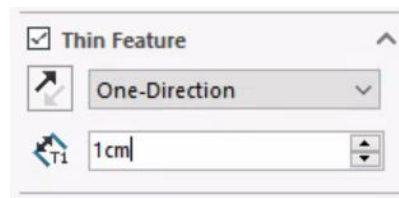

Figure 5: The Thin Feature option.
7. The main ways to make solids from sketches (that we care about) are revolving and extruding. These are available in the Feature tab as shown in Figure 5. If the Feature tab items appear gray, try clicking on exit